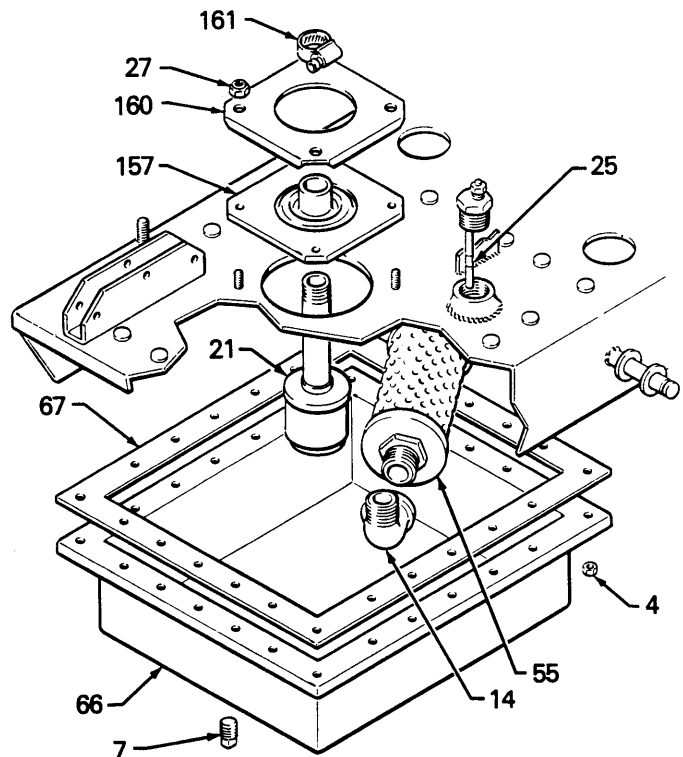

Fig 11
- b. Place a waste container under the drain plug (7) of the hydraulic reservoir. See Fig 11. Unscrew the plug, and drain the reservoir. Reinstall the plug before proceeding.
- c. Remove the nuts (4) and reservoir (66).
- d. Remove the return line filter (55) and install a new filter assembly.
- e. Inspect the inlet filter (21) and replace if needed.
- f. Install the reservoir and nuts. Then pour in 2-1/2 gallons (9.5 liters) of Graco Hydraulic Oil through the dipstick hole (25). See Fig 11. Install the dipstick.